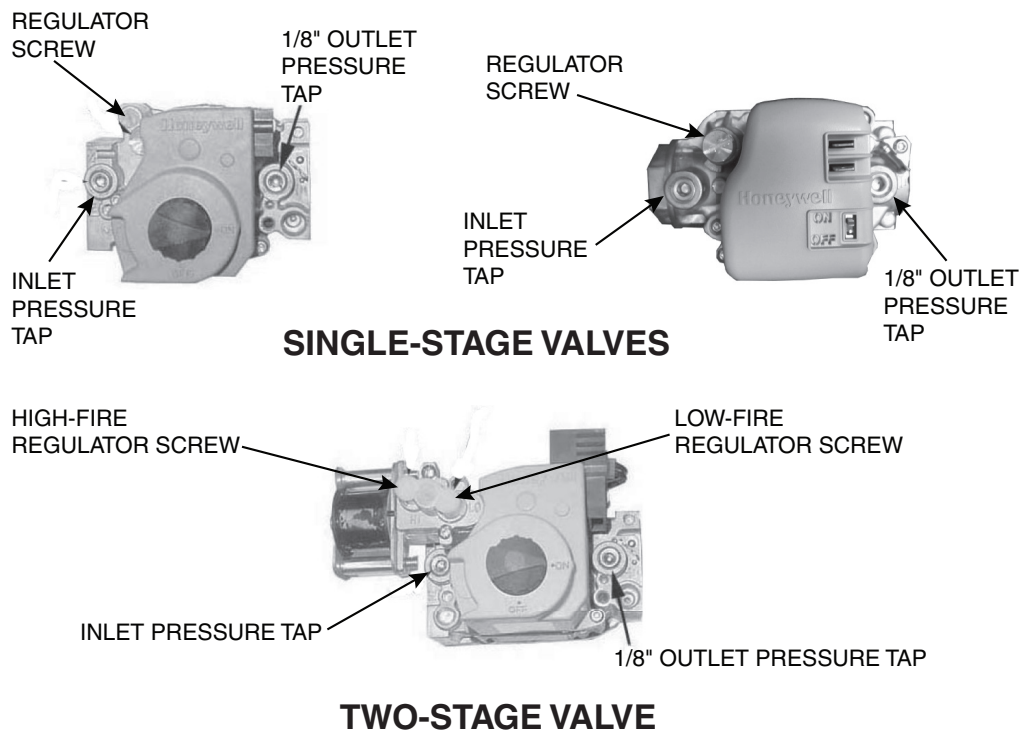

Figure 2. Gas Valves
- c. Connect manometer to 1/8-inch output pressure tap on valve (see Figure 2).
- (1) Turn knob or switch on top of valve to ON.
- (2) If pressure is out-of-range, remove cap from regulator screw (see Figure 2) and adjust pressure in accordance with Table 5 by turning regulator screw IN (clockwise) to increase pressure or OUT (counterclockwise) to decrease pressure.
- (1) Disconnect wire from HI terminal on gas valve.
- (2) Remove cap from low-fire regulator screw (see **Figure 2**) and adjust pressure in accordance with **Table 5** by turning regulator screw IN (clockwise) to increase pressure or OUT (counterclockwise) to decrease pressure.
- (3) Reconnect wire to Hi terminal on gas valve.